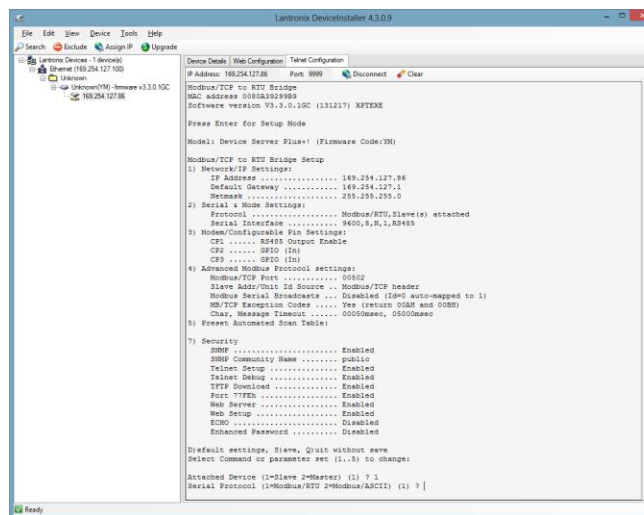

Fig 6.6.1
6.6 As shown in fig 6.6.1, enter '1' to select "Modbus/RTU" protocol.